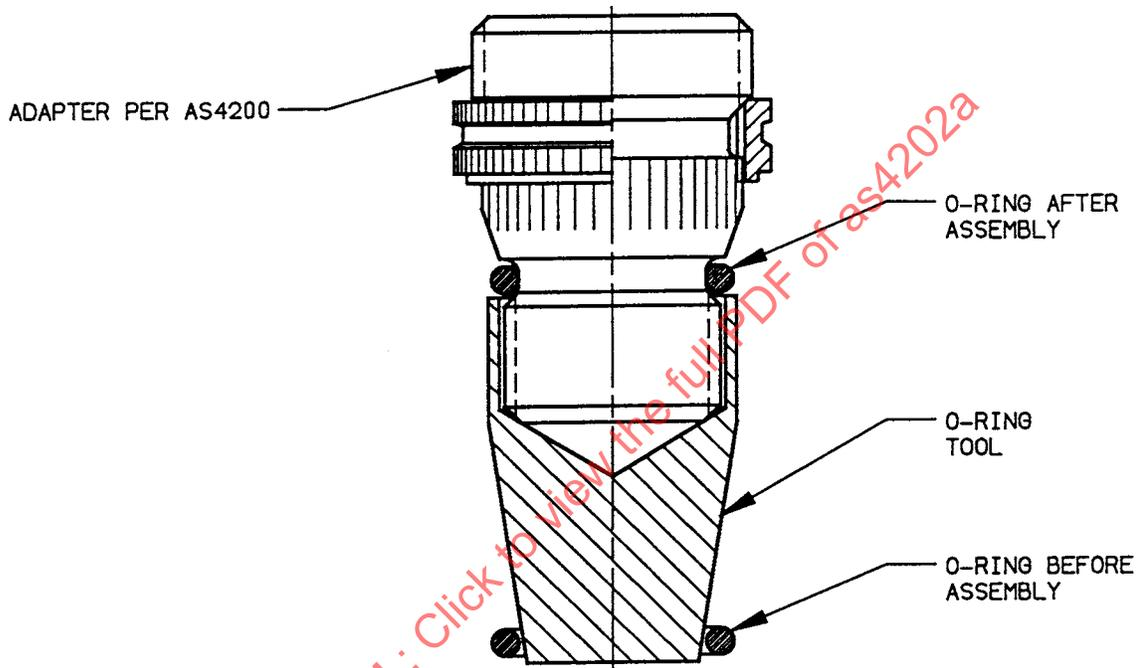

FIGURE 2 - O-ring Installation
- 5.1.1 Place the O-ring tool (per Table 2) over the small thread of the fitting. Submerge the adapter, O-ring tool and O-ring in the fluid to be used in the working system, or a lubricant compatible with the system fluid and all components. Slide the O-ring over the O-ring tool and onto the fitting. Be sure that the O-ring is not twisted and is properly seated in the groove of the fitting. See Figure 2.